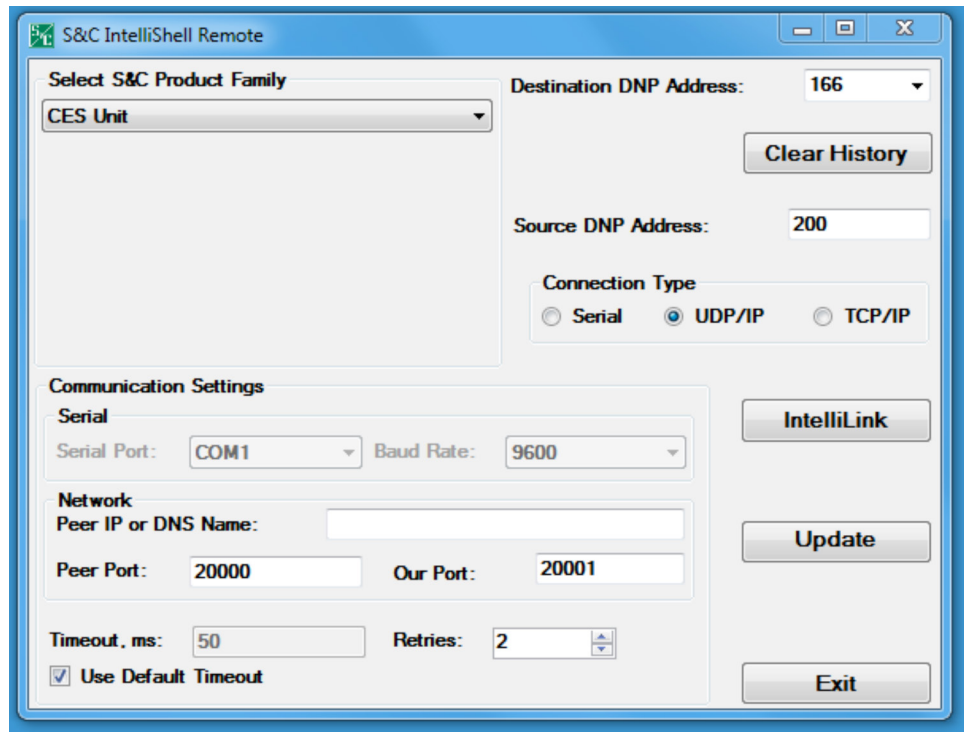

Figure 12. Location of data fields for IntelliLink configuration.
3. Find the IntelliLink icon and double-click on it to access the configuration screen. The following are the configuration steps to the IntelliLink program. See Figure 12 on page 20 for location of the fields to enter the data: